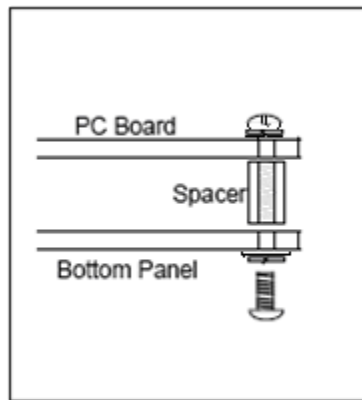

Figure 14. Mounting the spacers to the bottom panel
13. ☐ Remove the right side panel, slide in the bottom panel and attach it to the spacers with 1/4 inch 4-40 screws, flat washers and lock washers (Figure 14). The bottom panel holes are not equidistant from the edges - the hole on the TUNING control side is closer to the right edge than the hole on the VOLUME control side is to the left edge. You may need to flip the bottom panel if the holes do not line up with the spacers. Reattach the right side panel. Attach the four rubber feet to the corners of the bottom panel. At this point the enclosure is complete except for the top panel.